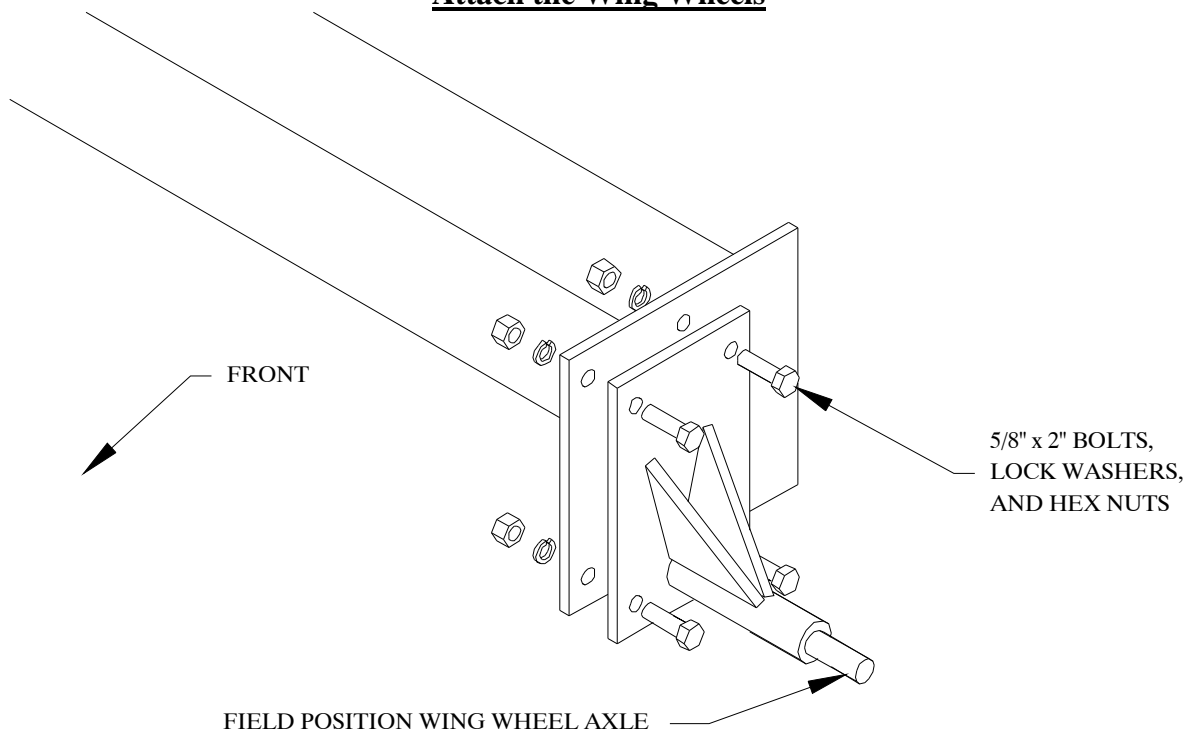

Figure 9
2. Attach the wings to the hinge knuckles using the remaining 1 3/4" x 11 1/16" hinge knuckle pins, 5/8" x 4" grade 8 bolts, and locking hex nuts. The wing axle end plate should be offset towards the front of the unit as shown in figure 9.
1. Mount the field position axles to the ends of the wings as shown in Figure 9 (note the location of the gussets). Use eight 5/8" x 2" bolts, lock washers, and hex nuts.